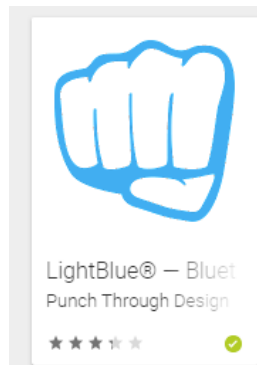

Figure 3-7 Bluetooth debugging app
5. Install the Bluetooth debugging app on the mobile phone. Below will introduce using the android phone to run this demo. Install the app named “LightBlue — Bluetooth Low Energy” from the Google play (See **Figure 3-7**). Note, you can also find this app in the App Store for iPhone.